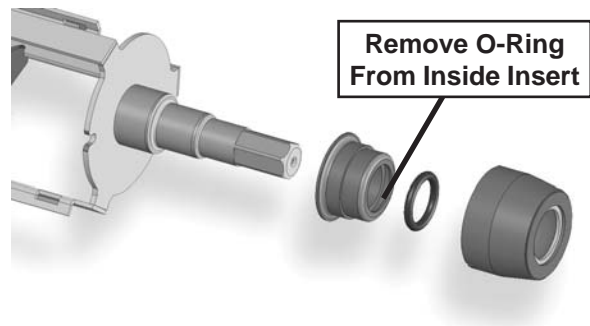

Figure 3-4 Rear Seal Assembly
8. Wipe the spline lubricant off of the hex end of the auger with a paper towel. Remove the rear seal assembly (Fig. 3-4).